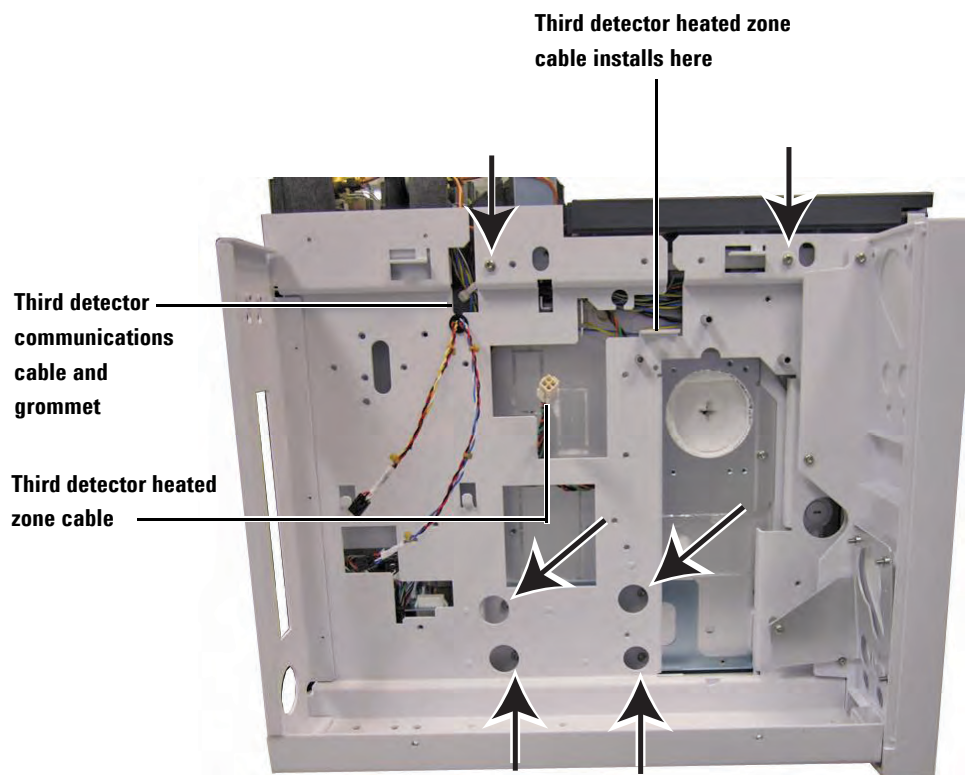

Figure 15 Install the third detector box assembly frame to the GC
- 5 Align the third detector box assembly frame against the side of the GC so that the mounting holes align as shown below. Install two M4 x 25 mm screws at the top, and use four M4 x 12 mm screws for the bottom. Be sure you can access the third detector heated zone cable. See Figure 15.
- 6 Route the third detector EPC communication cable through the third detector box assembly frame as shown in Figure 15. Install the supplied grommet in the frame.